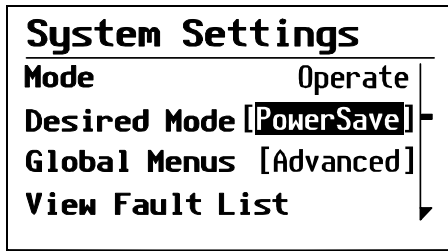

Figure 18 Entering Power Save Mode
- You can also enter Power Save mode on the System Settings menu by selecting Desired Mode, scrolling to PowerSave as shown in Figure 18, and pressing Enter.